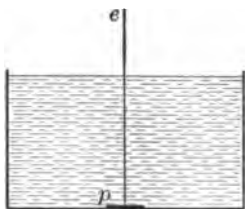

FIG. 155
**221. Refraction defined.** — Let us remember this for a moment while we consider the matter further. In all these cases mentioned, we notice that the rays from the object to the eye meet the surface between the two media at an *acute angle* (an angle less than a right angle, —  $90^\circ$ ). Now look straight down to the penny, so that the line  $ep$  from the eye to the coin hits the surface of the water at right angles (Fig. 155), and we find that the rays are not refracted at all.